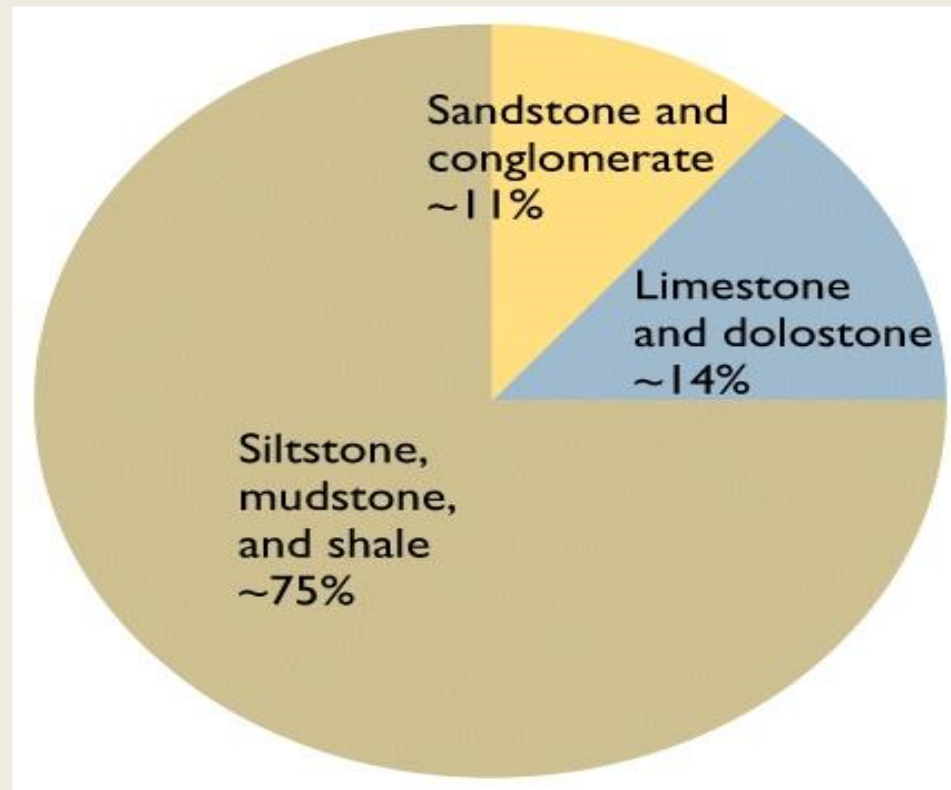

Fig.4 Relative Abundance of Sedimentary Rock Types
- 5 % by volume of the upper crust (Figure 4).